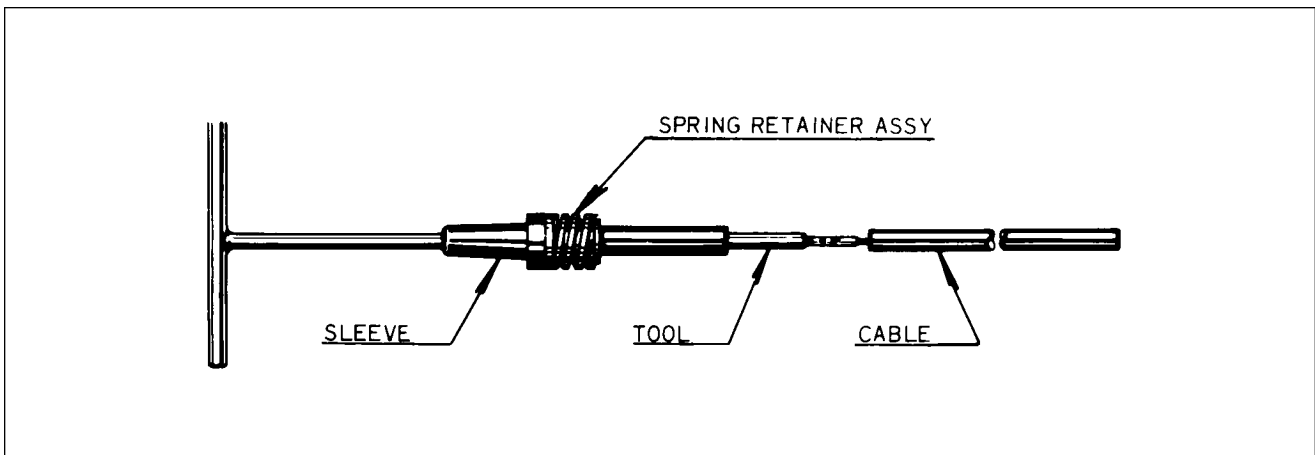

Figure 74-13. Assembly Tool Application
- (2) Push the tool through insulating sleeve and spring retainer assembly as shown in Figure 74-13. Screw the cable terminal into the tool.
- (3) Work the insulating sleeve and spring retainer assembly into position over the cable and unscrew the tool. Install the contact spring on the cable terminal.